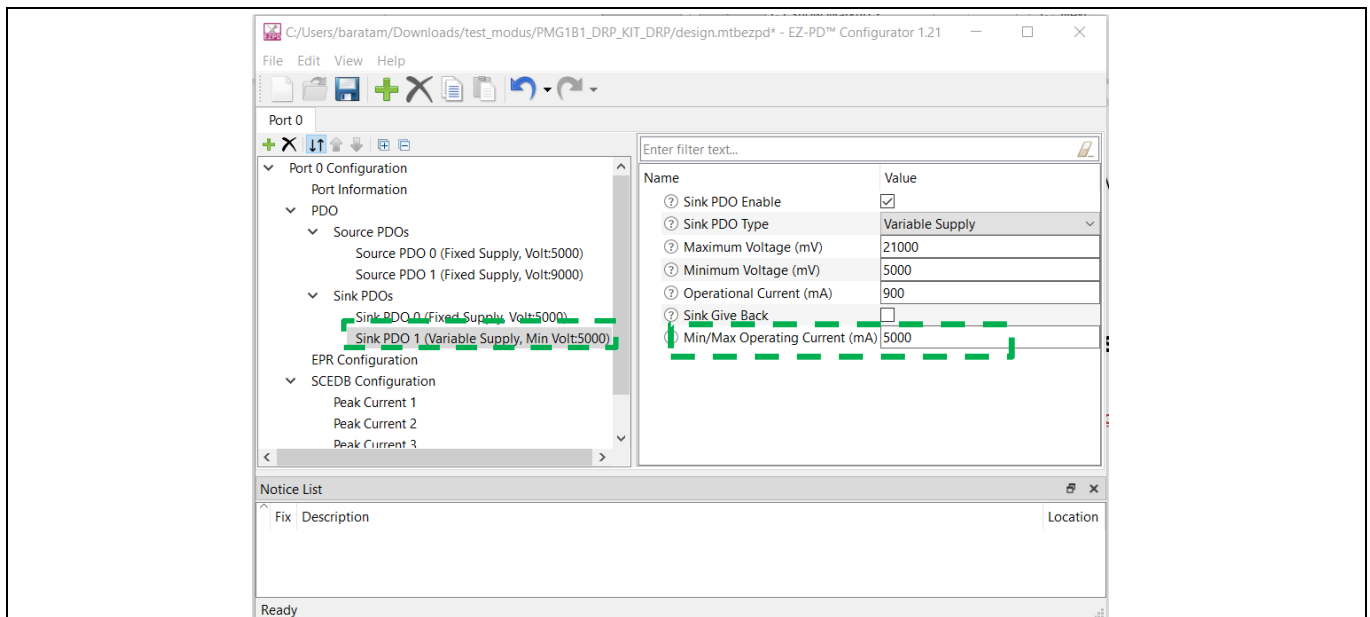

Figure 18 Modifying maximum input current in sink mode of DRP and SINK FW
- Modify “Min/Max Operating current(mA)” in “Sink PDO 1” to any value less than 5000 as shown in Figure 18.